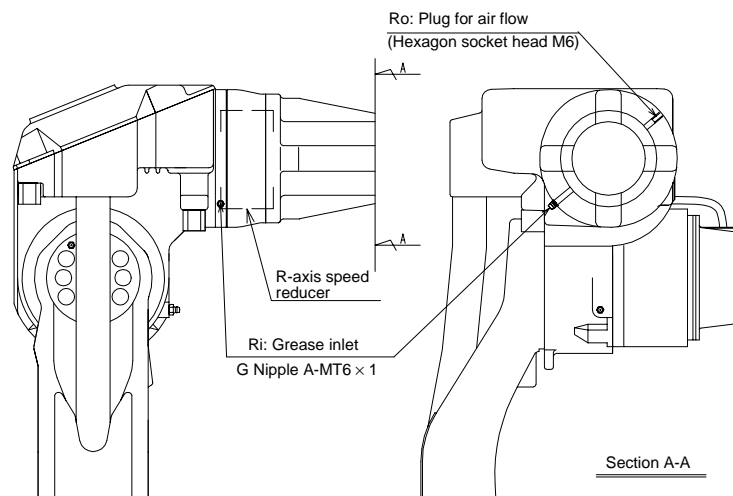

Fig. 29 R-Axis Speed Reducer Diagram
2. Inject grease into the Ri grease inlet using a grease gun. (Refer to " Fig. 29 R-Axis Speed Reducer Diagram ".)